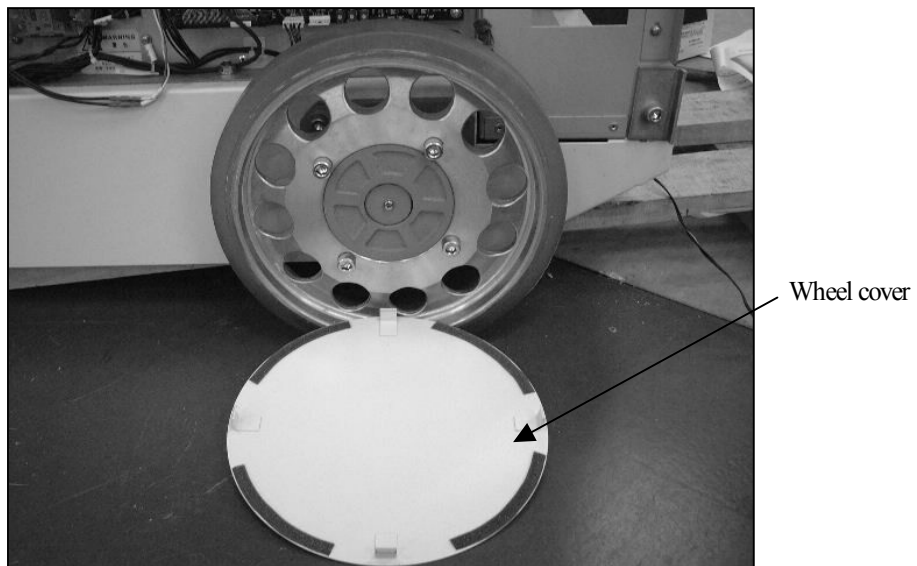

Fig. 6-55 Remove the Wheel Cover
9. As shown in Fig. 6-55, detach the wheel cover.